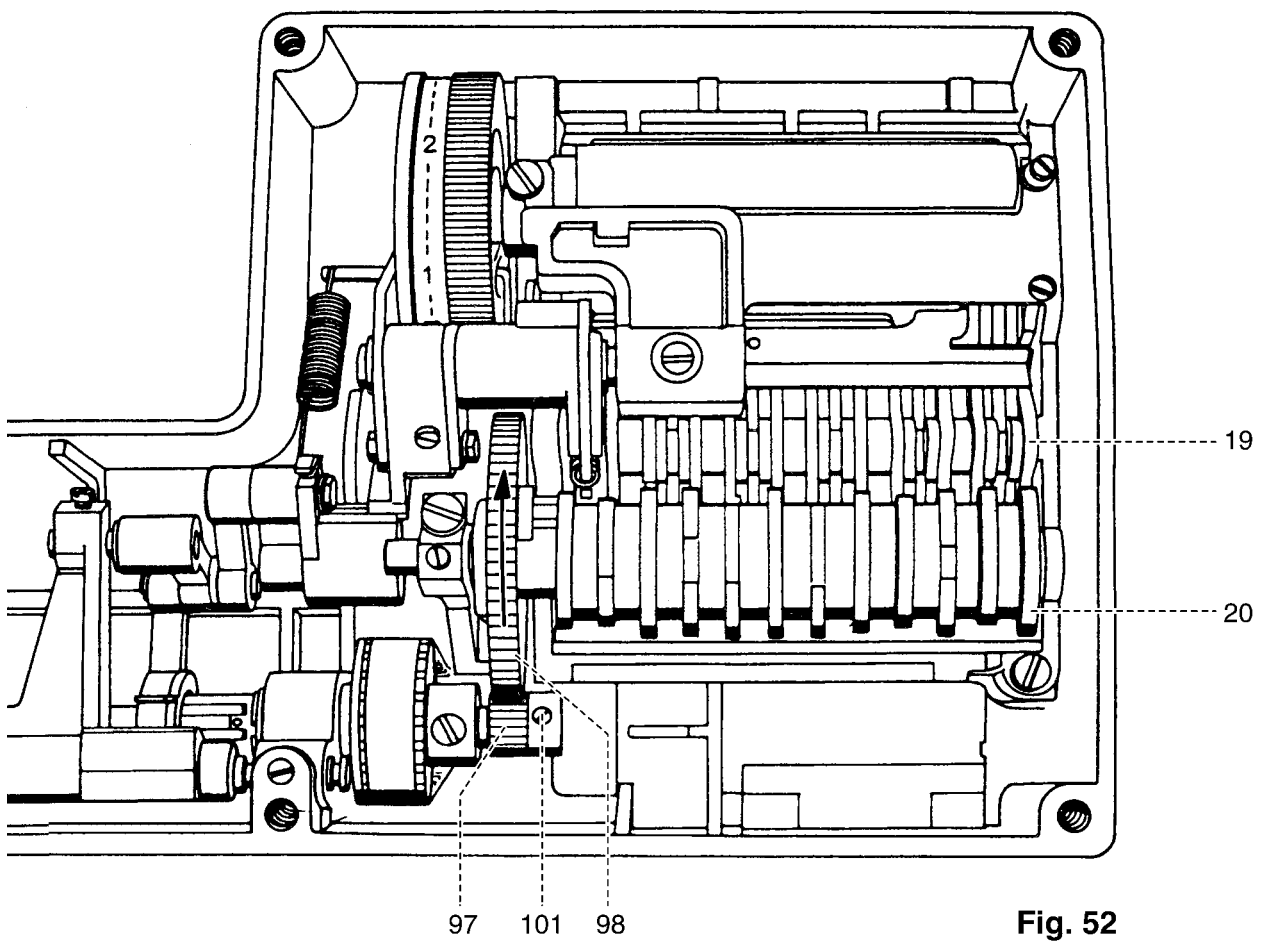

Fig. 52
- Loosen the two screws 101 (fig. 52).